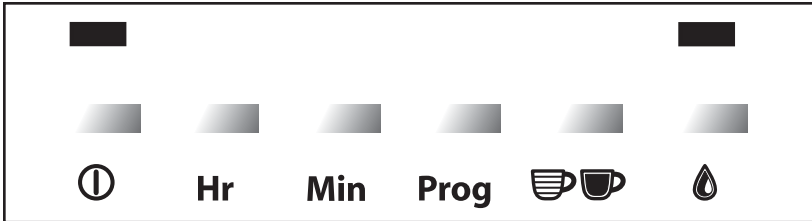

FIGURE 2
6. You may choose to brew your coffee at a stronger brew strength. To do so, press the BREW STRENGTH Button. A filled coffee cup icon will appear in the Display indicating a stronger brew strength. (See Figure 2.)
Your Coffeemaker has a built in multifunction Timer. The following sections describe the proper use of the Timer. (See Figure 2.)